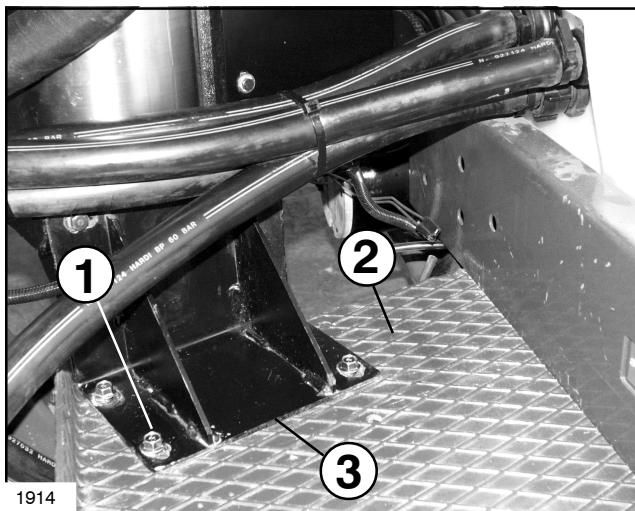

Fig. 2
3. Mount the Mounting Bracket using four (4) 3/8" x 1" hex hex head cap screws, four (4) 3/8" washers, and four (4) flange lock nuts. See FIG. 2.
4. Mount Tank/Compressor assembly to Mounting Bracket using two (2) hex head cap screws and two (2) washers. Fasteners must be installed from the backside.